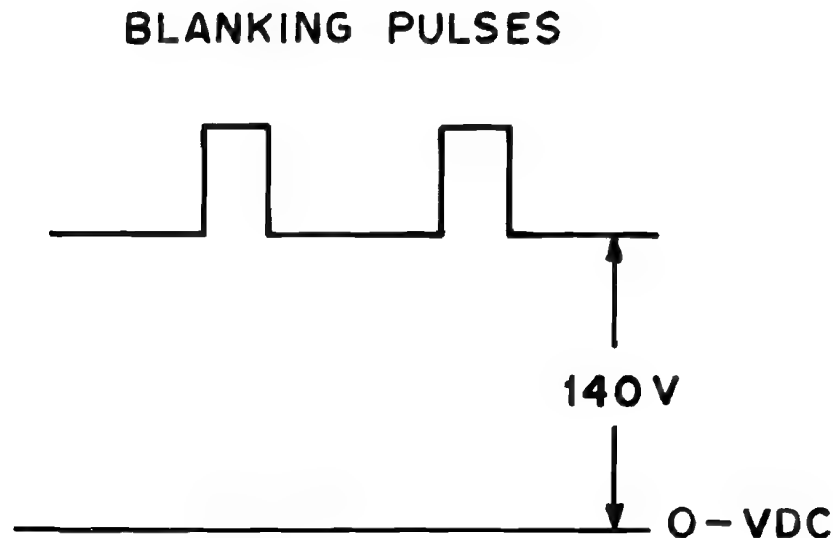

FIGURE 10
- 5.8 Adjust the black level control (VR201) to obtain the waveform shown in Fig. 10.